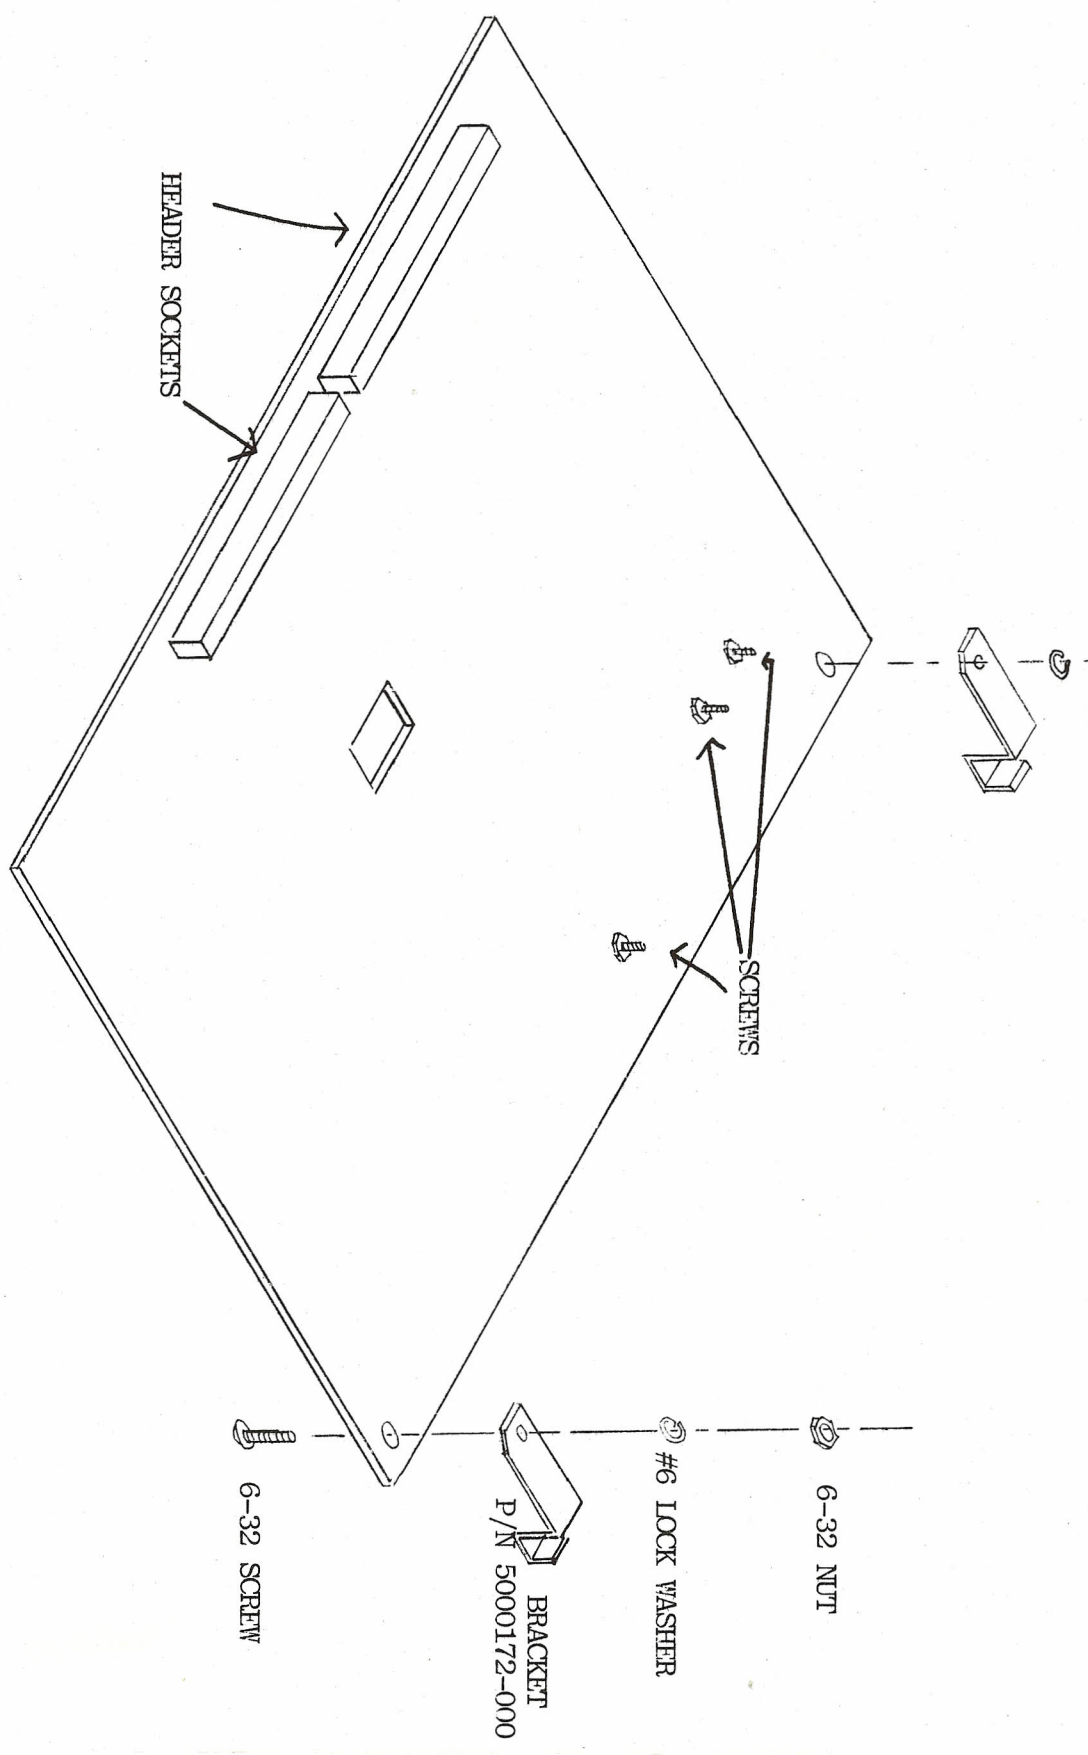

FIGURE 1.
2. Mount the controller support brackets (Part no. 5000172-000) to the bottom of the controller board (Part no. 1000176) with the hardware provided (see figure 1).